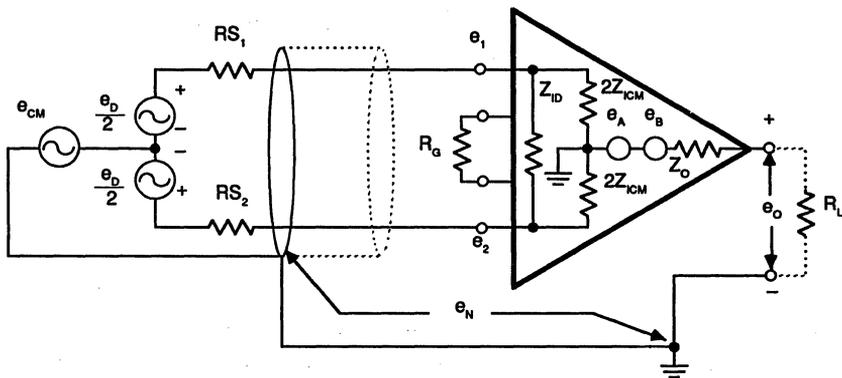

Figure 2. Simple Model of an Instrumentation Amplifier Shown in a Typical Application Configuration.
A simple model of a realistic instrumentation amplifier is shown in Figure 2. The impedance Z_{ID} represents the differential input impedance. The common-mode input impedance Z_{ICM} is represented as two equal components, $2Z_{ICM}$, from each input to ground. These finite resistances contribute an effective gain error due to loading of the source resistance. The instrumentation amplifier provides a load on the source of $Z_I = Z_{ID} \parallel Z_{ICM}$. If source impedance is $R_S = R_{S1} + R_{S2}$, the gain error caused by this loading is:
As illustrated in Figure 2, the output voltage has two components. One component is proportional to the differential input voltage $e_D = (e_2 - e_1)$. The second component is proportional to the common-mode input voltage. The common-mode voltage which appears at the amplifier’s input terminals is defined as $e_{CM} = e_2 + e_1/2$. This may consist of some common-mode voltage in the source itself, e_{CM} , (such as bridge excitation) plus any noise voltage, e_N , between the source common and the amplifier common. As shown in Figure 2, the constant G represents the differential amplifier gain factor (fixed by the external gain-setting resistor). The constant $(G/CMRR)$ represents the common-mode signal gain of the amplifier. The CMRR (common-mode rejection ratio) is the ratio of differential gain to common-mode gain. Thus CMRR is proportional to the differential gain and CMRR increases as the differential gain (G) increases. Hence, CMRR is usually specified for the maximum and the minimum values of gain of the amplifier. The common-mode rejection may be expressed in dB as $CMRR (dB) = 20\log_{10} CMRR$.
If the source impedances are unbalanced, the source voltages ($e_{CM} + e_N$) are divided unequally upon the common-mode impedance, and a differential signal is developed at the amplifier’s input. This error signal cannot be separated from the desired signal. In the circuit in Figure 2, if $R_{S2} = 0$, $R_{S1} = 1k\Omega$, $e_{CM} + e_N = 10V$, and $Z_{CM} = 100M\Omega$, then the effect of unbalance is to generate a voltage: